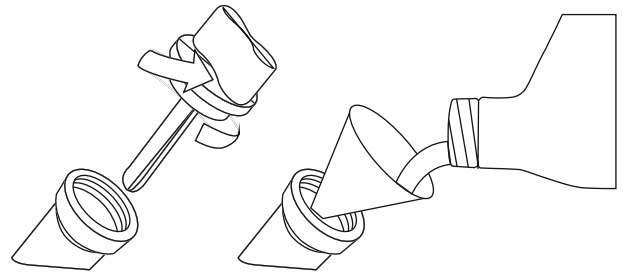

Figure 3: Oil Funnel
3. Using the funnel and oil, pour the entire bottle of oil into the engine (see Figure 3).